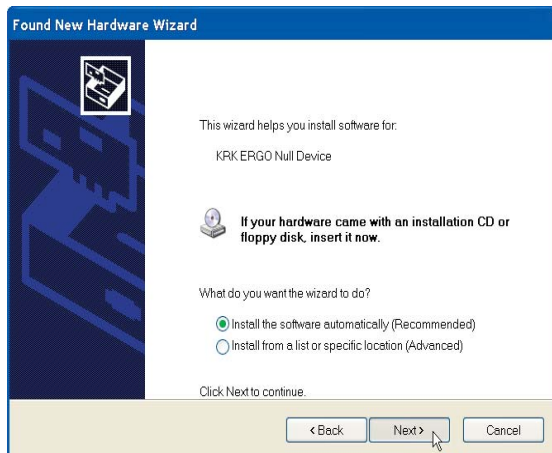

Figure 3.14
9. Select **Install the software automatically** and click **Next**. (Figure 3.14)